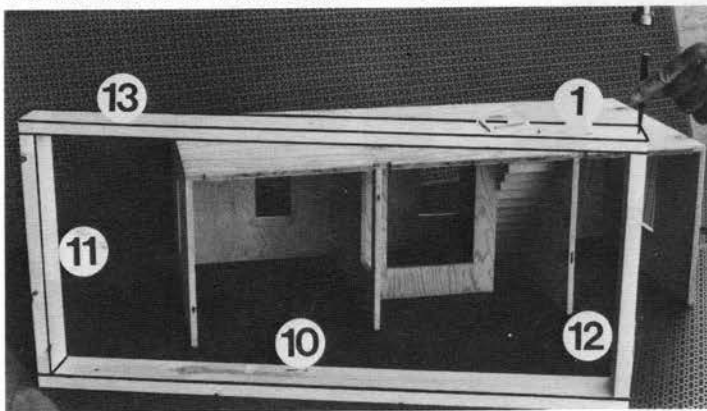

Fig. 6
STEP 5: Assemble foundation parts 10, 11, 12, and 13. Use 1½ inch long finish nails and set nails below surface with nail set punch. Install the foundation assembly onto the bottom of the previous assembly. Make sure the foundation is flush with the front of the floor 1, and inset about the same on the two ends and the rear. (FIGURE 6).